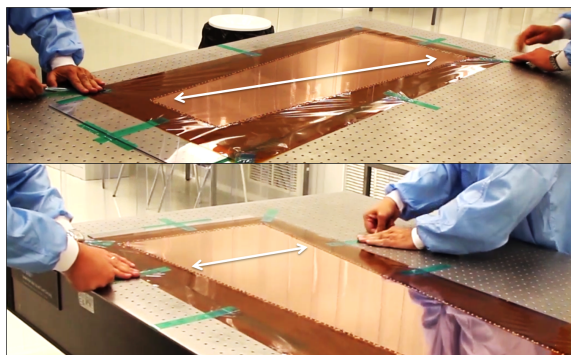

Figure 59: Pre-stretching the foil (2).
Step 10: Always proceed with two persons working in the opposite directions (Fig. 59).